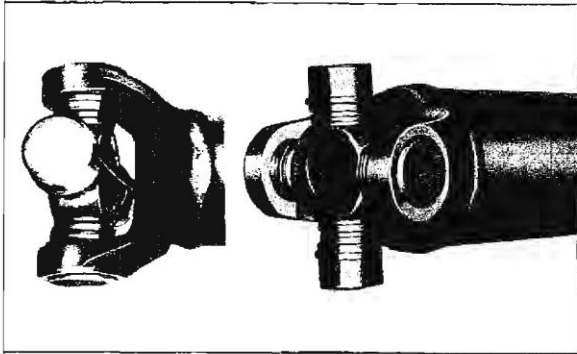

Fig. 4-5 Bearings Held in Place By Retainer Strap
2. Remove U-bolts which hold rear universal joint to companion flange. Use a heavy rubber band or tape to hold bearings onto journal to prevent loss of bearing rollers when joint is disconnected if retainer strap has been removed (Fig. 4-5).
2. Remove "U" bolts which hold rear universal joint to companion flange. Use a heavy rubber band or tape to hold bearings onto journal to prevent loss of bearing rollers when joint is disconnected if retainer strap has been removed (Fig. 4-5).
2. Disconnect rear universal joint from companion flange by removing two "U" bolts. Use a heavy rubber band or tape to hold bearings onto journal to prevent loss of bearing rollers when joint is disconnected if retainer strap has been removed (Fig. 4-5). Support propeller shaft out of the way.
3. Remove "U" bolts which hold rear universal joint to companion flange. Use a heavy rubber band or tape to hold bearings onto journal to prevent loss of bearing rollers when joint is disconnected if retainer strap has been removed (Fig. 4-5).